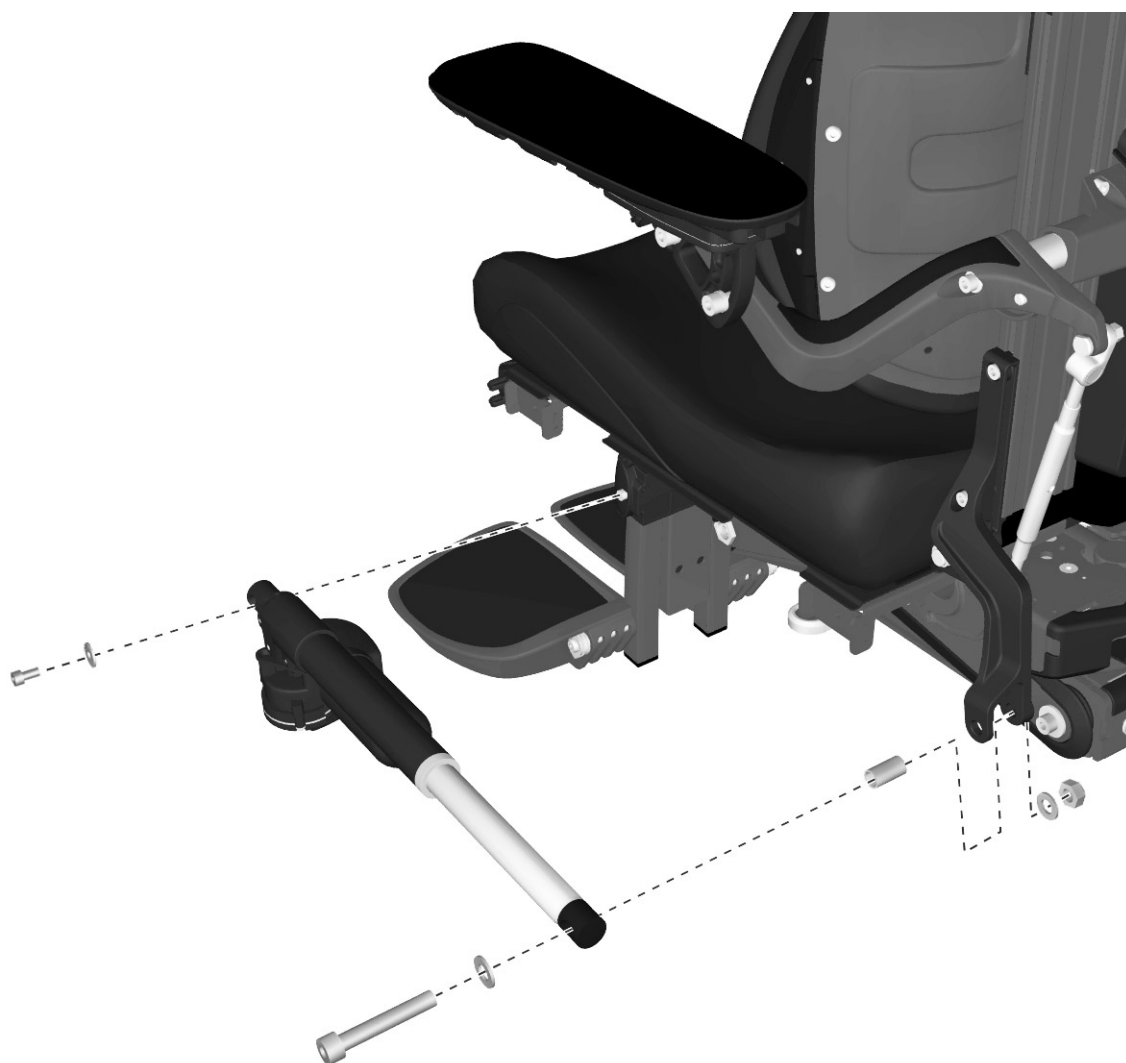

Figure 210. The backrest actuator.
5. Hold the backrest in a steady grip as you remove the actuator unit. Remove the nut, washer and screw from the rear bracket of the actuator. See fig. 210. Once the rear bracket has been removed the backrest can be angled forward to rest on the seat cushion.
6. Remove screw and washer from the front bracket of the actuator. See fig. 210.
1. Assemble the front end of the actuator with the screw and washer. **Tightening torque 9.8 Nm / 7.2 Ft/lbs.** See fig. 210.
2. Fit the rear fixing screw, spacer and washer for the actuator. Tighten the screw using a torque wrench. **Tightening torque: 24 Nm / 17.7 Ft/lbs.** See fig. 210.